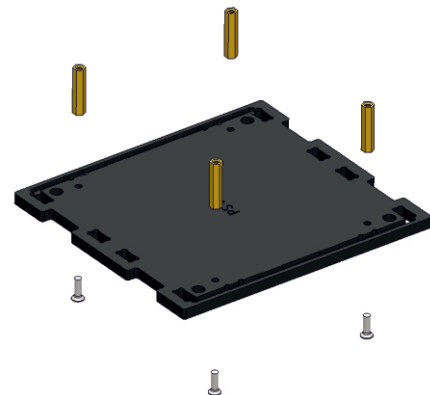

Fig. 2: Securing brass studs
1) Take the bottom base plate of the PSS (marked as "PSS ↓"), put four M3x22 PCHSS brass studs on top, secure them from below with four M3x10 sunk screws (Fig. 2):